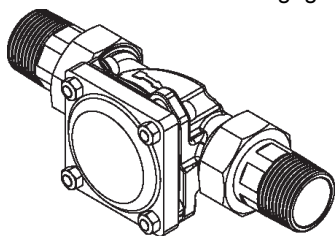

Fig. 6: Connection of appliance engaged
2. Turn the device in clockwise direction up to the stop (see Figure 5 and Figure 6).